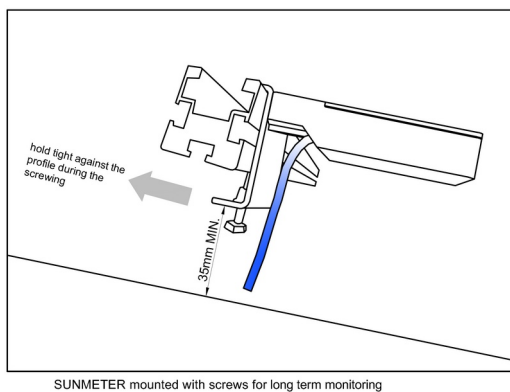

Fig. 1
- (1) In order to get the right fit of male and female side of the connector pin, turn the male side of the connector less than 360° for finding the right position.
- (2) After finding the right position, tighten the connection between the male and female connectors only by rotating the steel ring and make sure you do not rotate the connector.
- (3) Always clamp the Sunmeter Pro sensor on parallel side of the PV module in order to avoid casting shadow on the PV module behind it.
- (4) SM PRO is provided with a bracket to apply it to structures or directly to a PV module as shown in Fig. 1 and 2: